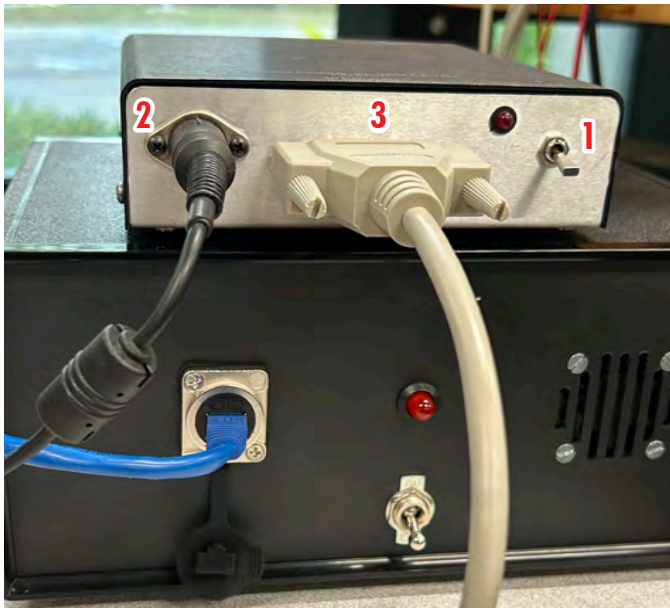

FIGURE 21—(1) Power toggle switch, (2) Power supply cord, (3) Parallel port cable.
- A. Place the driver box on top of the controller with the power toggle switch (1) side of the driver box to the front of the controller. Plug in the power supply cord (2). Plug in the parallel port cable (3) (see Figure 21).